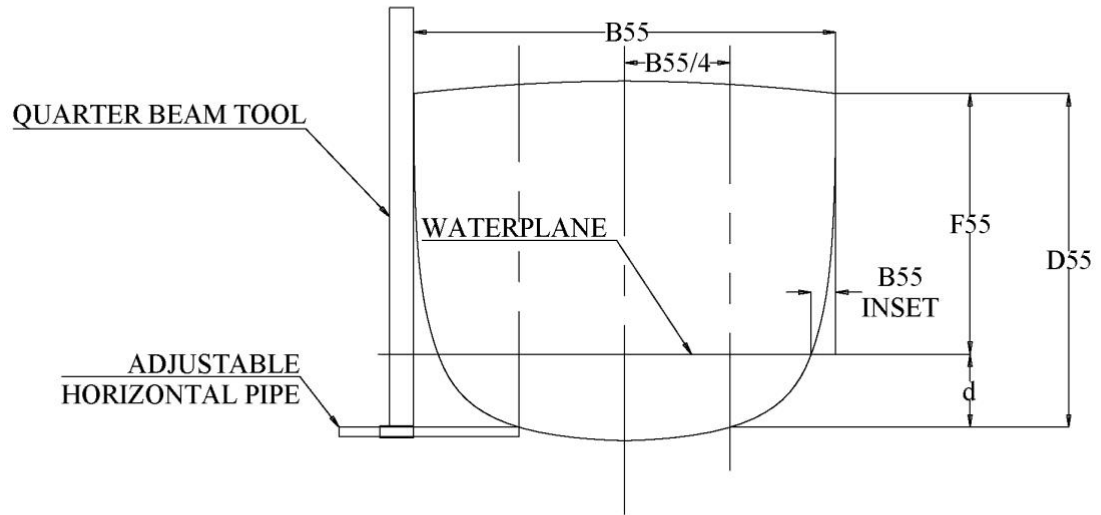

Figure 3
- 7.9. **W:** This measurement is used to determine the sheeting angle. The measurement is taken from the front of the mast to a piece of line stretched between the intersection of the forestay and deck to the aftmost sheeting location. If the boat has two sets of tracks use the measurement that gives the least angle. Input the distance. The program will calculate the angle and assign a rig factor based upon that angle. If the boat has a floating jib lead, use the most inboard attachment point for the tackle, even if it is on centreline. W is input for each headsail, use the appropriate track for that headsail. If the headsail is a headsail set flying on the bowsprit, use tack location for that headsail to attach the line back to the sheeting point. See Figure 3.